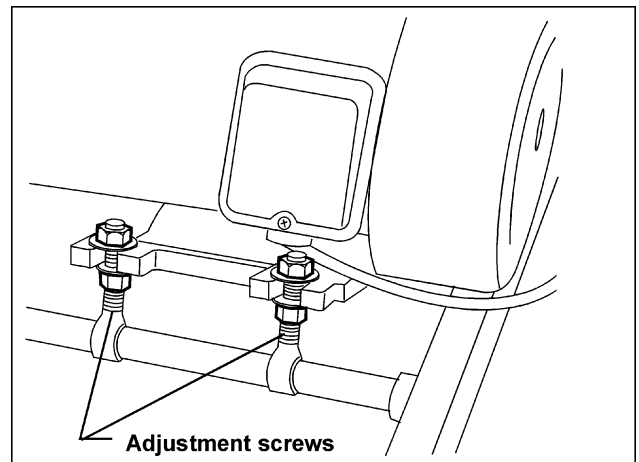

Fig. 12
2. Loosen the bottom nuts on the motor adjustment screws (Fig. 12) with a 19mm wrench.
5. Tighten the bottom nuts (Fig. 12).